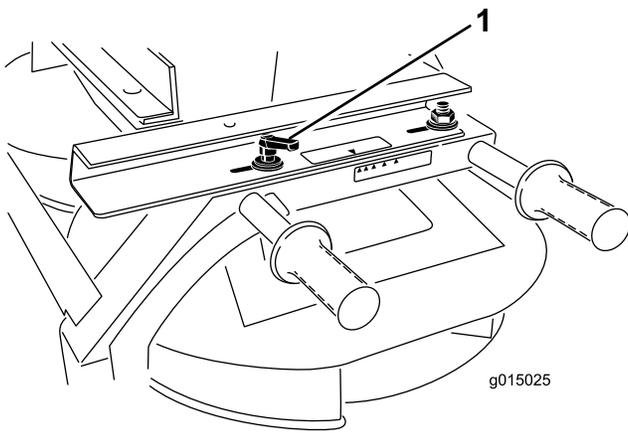

Figure 32
1. Loosen the handle on each side of the twin spinner (Figure 32).